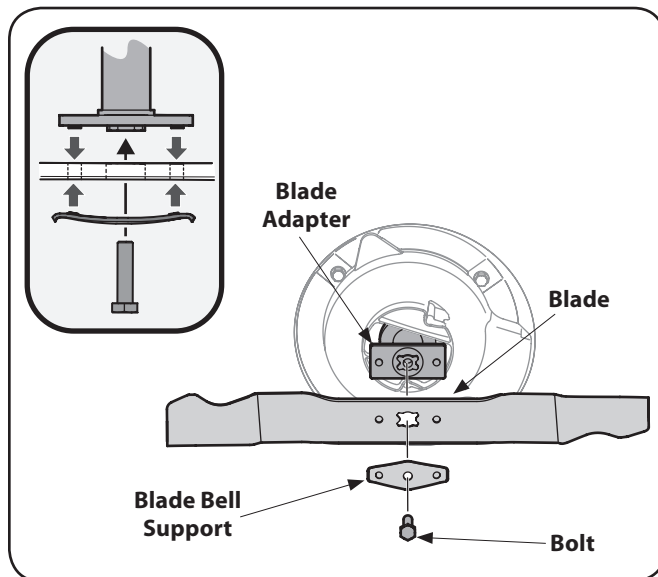

Figure 7-1
2. Remove the bolt and the blade bell support which hold the blade and the blade adapter to the engine crankshaft. See Fig. 7-1.
5. Place the blade on the adapter such that the side of the blade marked "Bottom" (or with part number) faces the ground when the mower is in the operating position. Make sure that the blade is aligned and seated on the blade adapter flanges. See Fig. 7-1 inset.